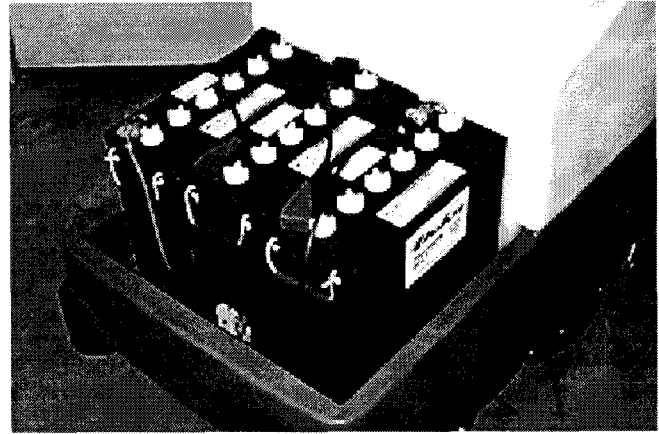

FIG. 4.
3. Carefully install 3 batteries and arrange batteries with negative posts towards back of machine as shown. To ease battery installation use a battery lifter strap. (Figure 4)